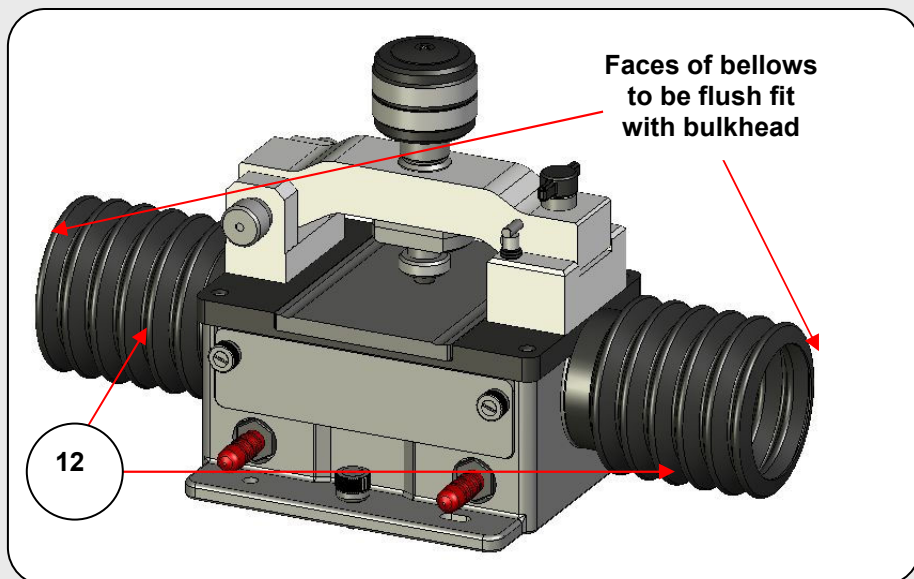

Figure 9. Silver Gate™ ATR Accessory – Optical Unit with Bridge and Clamp Anvil Assembly, Flat ATR Crystal Top Plate Assembly and Purge Bellows
To enable the optical unit to be purged it is necessary to fit the flexible purge bellows (12) to the optical unit at the aperture ports (10). (See Figure 9.) The purge bellows grip fit around the circumference of the aperture ports and bridge any gap between the optical unit and the spectrometer sample compartment bulkheads from the source and to the detector. If the gap/distance between the optical unit and bulkhead is small, the purge bellows can be cut to size. It is best to cut all the way around and in between one of the ridged grooves in the bellow moulding itself.
The bridge and clamp anvil assembly (**15**) carries a quick lock/release screw mechanism (**18**). In operation for sampling with **solids** using either the flat or recessed ATR crystal top plate assembly, the bridge must be closed (see Figure 9). The T-shaped quick lock/release knob (**18**) is pushed down and turned clockwise 90° to engage and lock the bridge closed. To release the bridge, the T-shaped knob (**18**) is pushed down and turned anti-clockwise 90°.